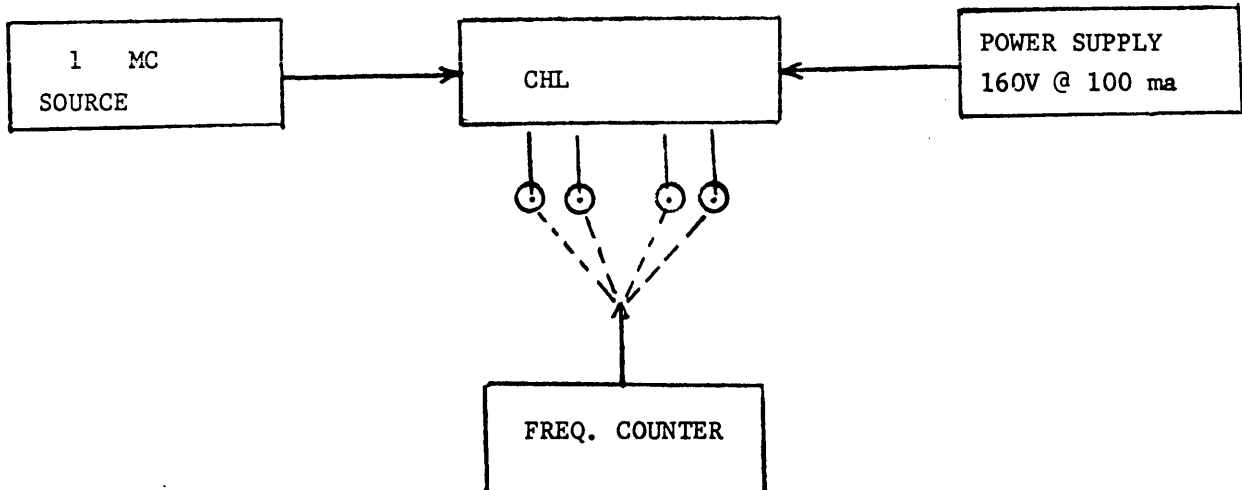

Figure III-6-3: Test Set Up For Divider Chain CHL
III-6-6 Test Procedure for Divider Chain Model CHL (Figure III-6-3)
- (a) Set the divider chain as shown in figure III-6-3.